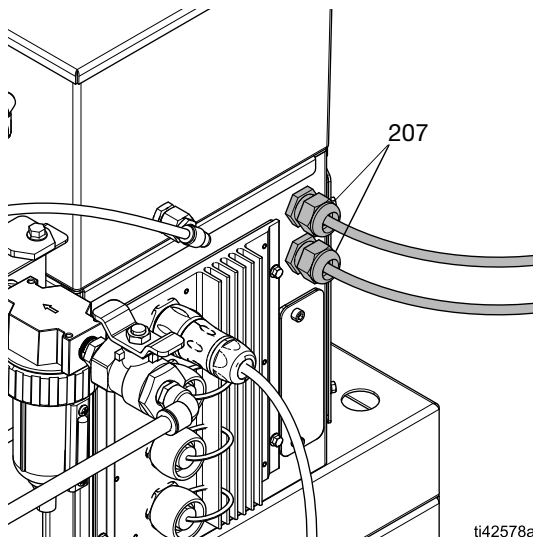

FIG. 12: I/O Cable Gland Location
2. Route a multi-conductor cable through an I/O cable gland. See FIG. 12.